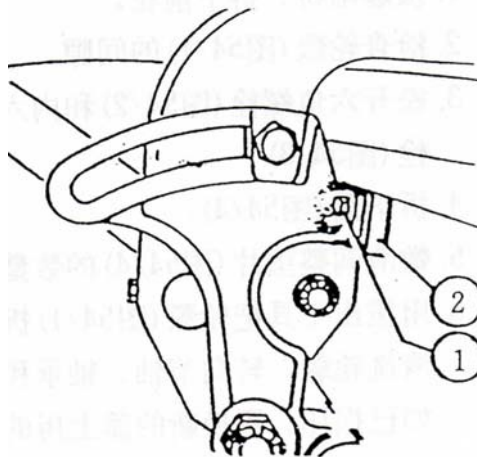

Fig. 56
8.9.2 Replace guide plate (Fig. 56)
2. Unscrew the tightening bolt (Fig.56/1).
3. Disassemble the guide plate (Fig.56/2).